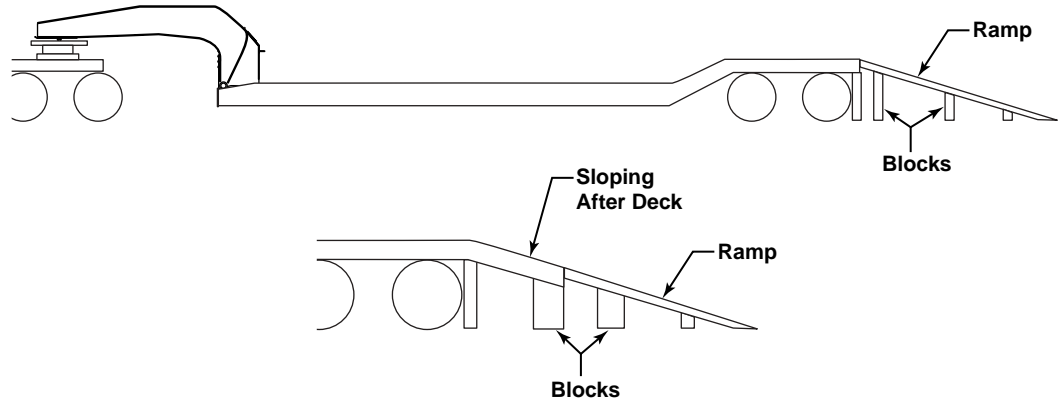

Figure 11. Blocking Under Rear of Trailer and Under Load Ramps.
2. When loading or unloading the trailer from the rear, block under the rear of the trailer frame and under the load ramps (see figure 11).